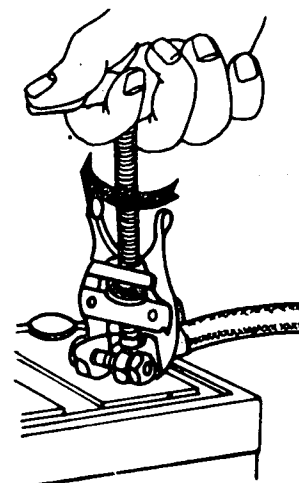

Fig. 1
- 1) If the head of the terminal of the battery is stuck, use a terminal extractor (fig. 1).